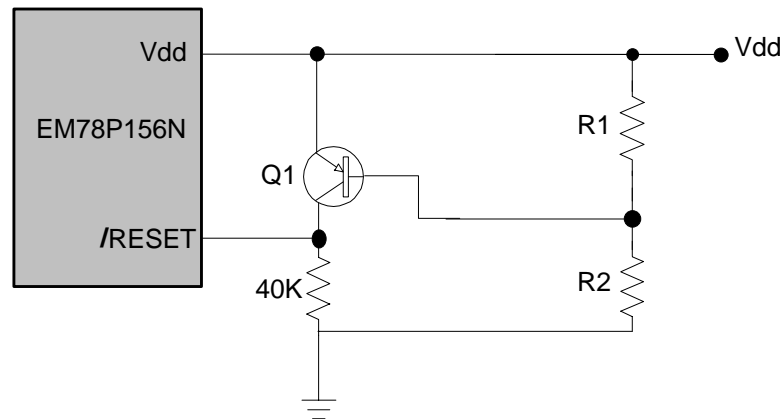

Fig. 16 Circuit 2 for the Residue Voltage Protection
The circuit shown in Fig.16 implements an external RC to produce the reset pulse. The pulse width (time constant) should be kept long enough for Vdd to reached minimum operation voltage. This circuit is used when the power supply has slow rise time. Because the current leakage from the /RESET pin is about $\pm 5\mu\text{A}$, it is recommended that R should not be greater than 40 K. In this way, the /RESET pin voltage is held below 0.2V. The diode (D) acts as a short circuit at the moment of power down. The capacitor C will discharge rapidly and fully. Rin, the current-limited resistor, will prevent high current or ESD (electrostatic discharge) from flowing to pin /RESET.